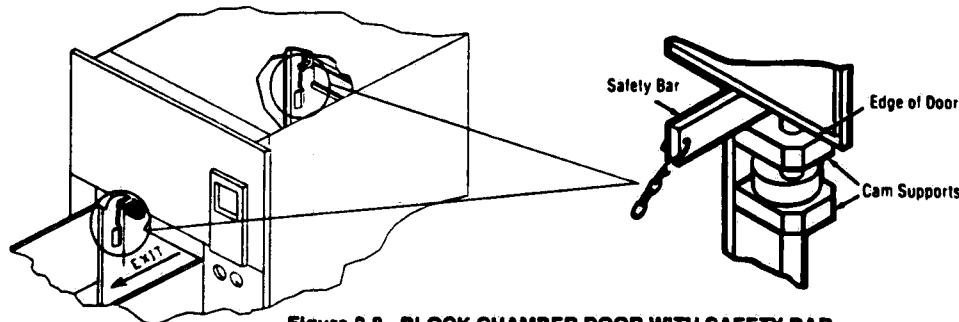

Figure 2-8. BLOCK CHAMBER DOOR WITH SAFETY BAR
- Block chamber door open with safety bar (see Fig. 2-8).